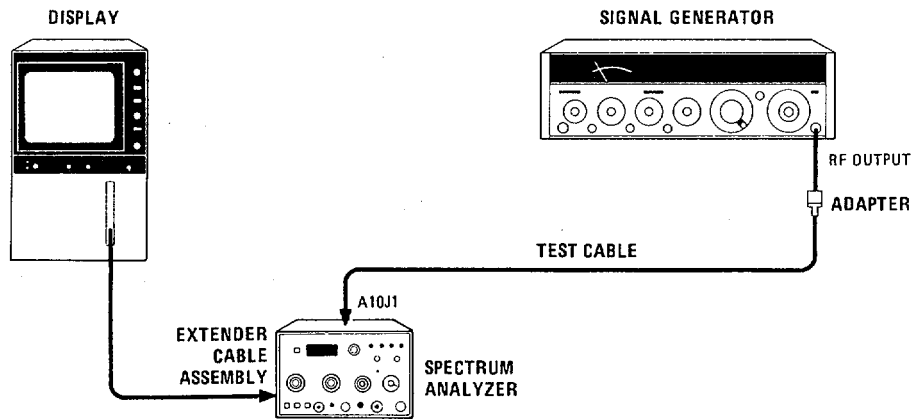

Figure 5-5. Second IF Bandpass Amplifier and Bandpass Filter Adjustment Test Setup
3. Remove W6P2 from Second IF A10J1. Connect signal generator through test cable to A10J1 as shown in Figure 5-5.